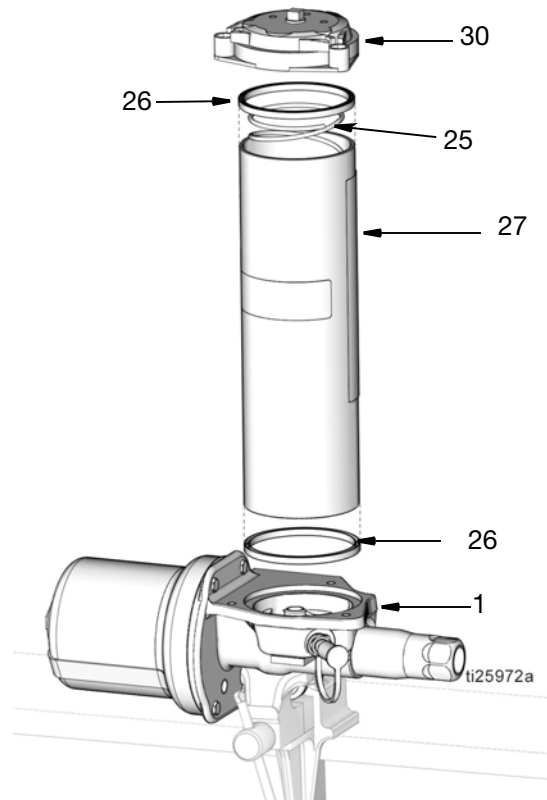

FIG. 14
11. Remove reservoir (27) from pump base (1) (FIG. 14). If replacing reservoir gaskets (26), remove gaskets from reservoir. Dispose of gaskets according to all regulations for proper disposal.